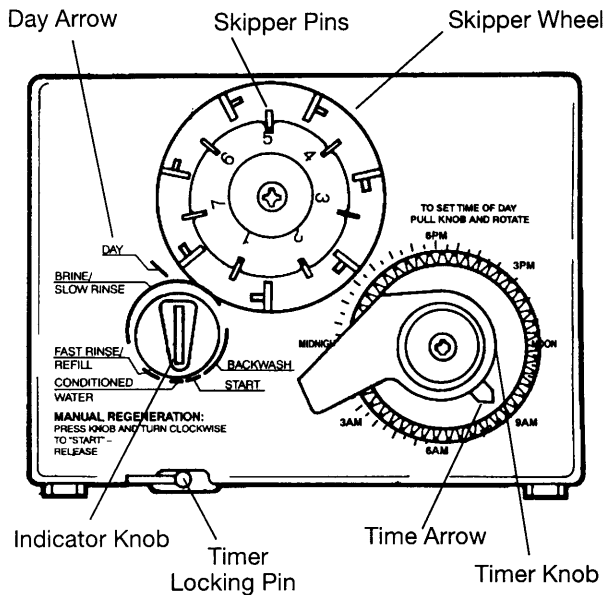
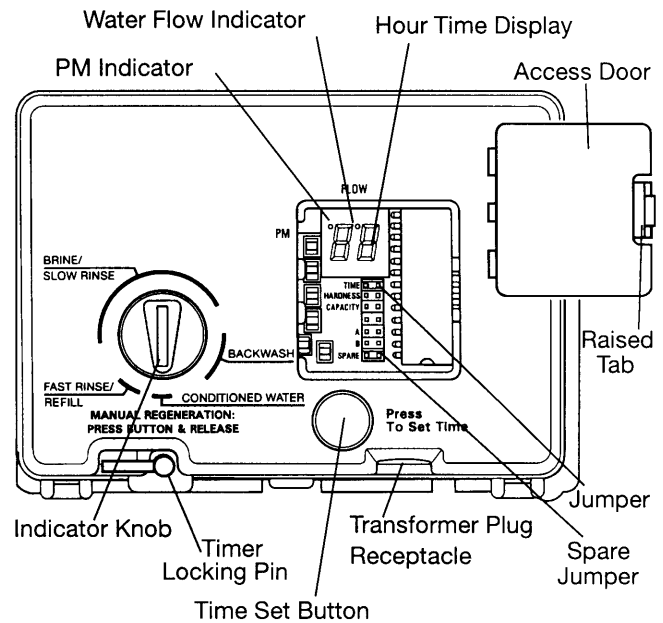

Figure 5
Figure 6
Note: The following steps will require turning the indicator knob (Figures 5, 6, 11, and 13) to various positions. Manually rotate the camshaft **COUNTERCLOCKWISE** only until indicator knob points to desired position. (See manual regeneration sections for each control's manual operation.)
- Set days of regeneration on skipper wheel (Figure 5).
Note: The Timer Locking Pin should always be horizontal (Figure 5) during operation.
Open the access door by pushing the raised tab on the door toward the left while pulling the tab out (Figure 6).
Note: The Timer Locking Pin should always be horizontal (Figure 6) during operation.
When abnormally high water usage exhausts your water conditioner's capacity ahead of schedule, an extra regeneration can be achieved. Depress the indicator knob on the 440i (Figure 5) with a wide-blade screwdriver and turn **COUNTERCLOCKWISE** to **START** to initiate a regeneration. For the 460i, simply depress the indicator knob (Figure 6). It will take a few minutes for regeneration to start. A normal regeneration will take approximately two hours.
Electricity is used only to run the control and to rotate the camshaft. All other functions are operated by water pressure. Therefore, in the event of a power outage, all the regeneration positions may be dialed manually by depressing the indicator knob and turning **COUNTERCLOCKWISE** (Figures 5 and 6). The following cycle times should be used for proper regeneration: